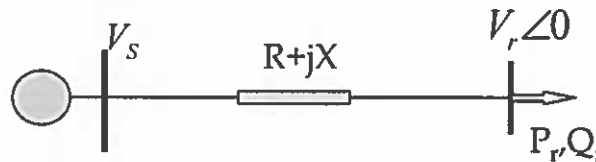

Figure 1.1 Transmission circuit with voltage and power specified at the receiving end
- b) For a transmission circuit given in Figure 1.1 and the corresponding phasor diagram below, show:
- Consider a high voltage transmission circuit with negligible resistance, as the one shown in figure 1.1. Assume that voltages (magnitudes and phase angles) are known at both sending and receiving ends.
b) For a transmission circuit given in Figure 1.1, we show:
c) For the network shown in Figure 1.1 we have: